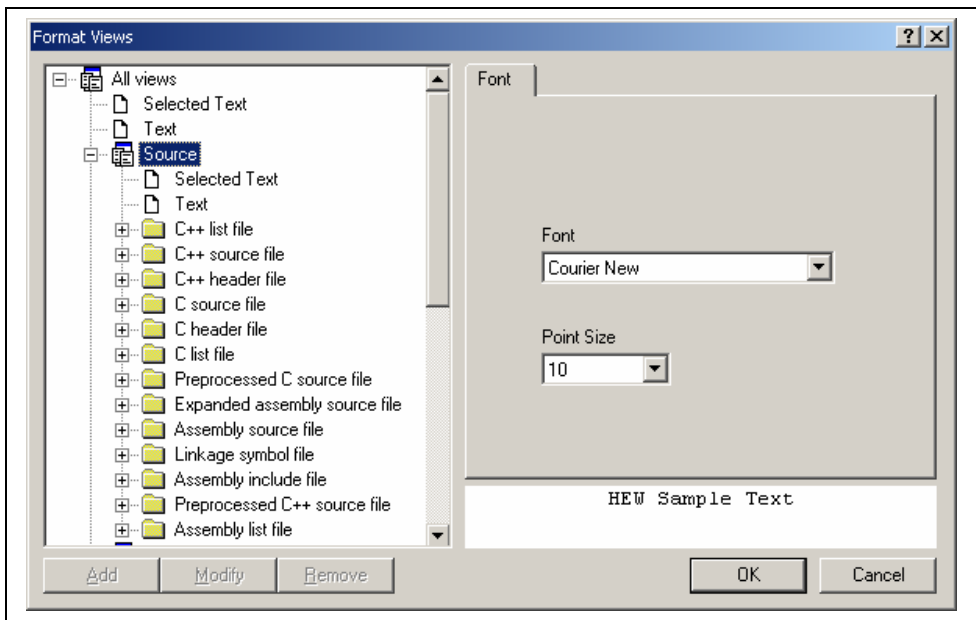

Figure 4.10: Format Views Dialog Font Tab
1. Select [**Tools->Format Views...**]. The “Format Views” dialog will be displayed. Select the Source icon in the tree (figure 4.10).